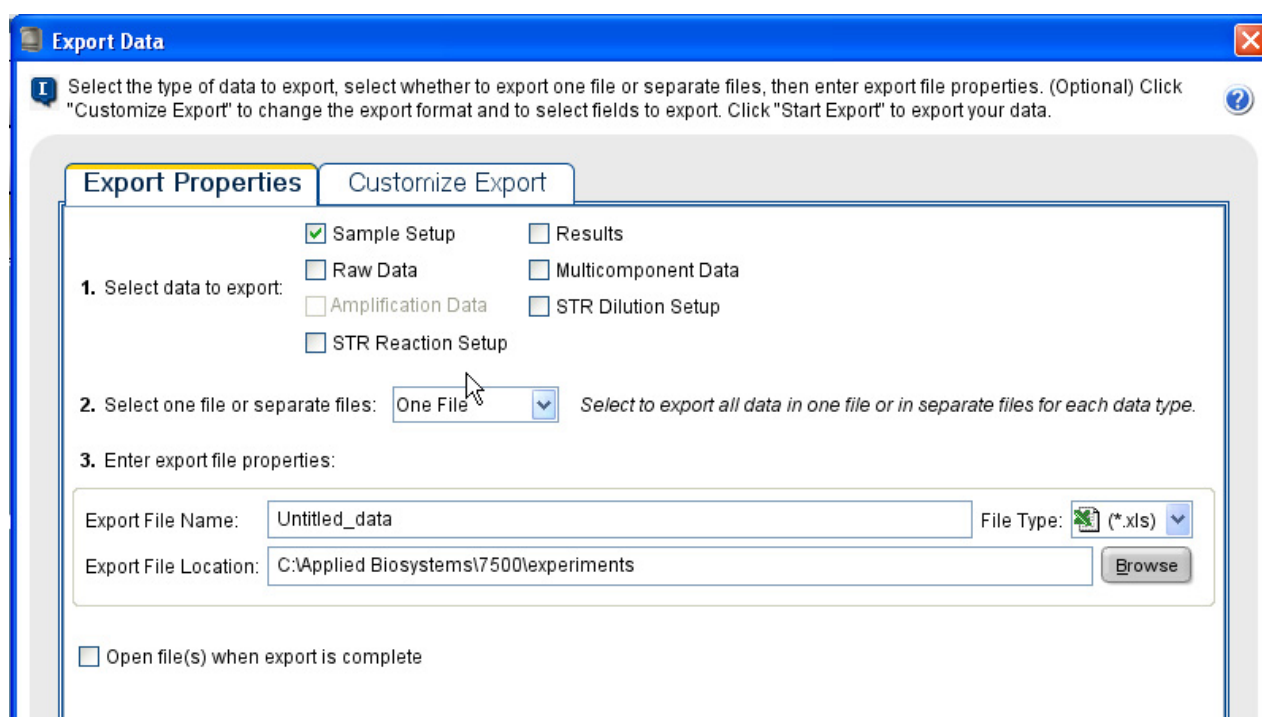

Figure 27 Export Properties tab
1. In the toolbar, click  (Export) to open the Export Data screen, then select the **Export Properties** tab (Figure 27).